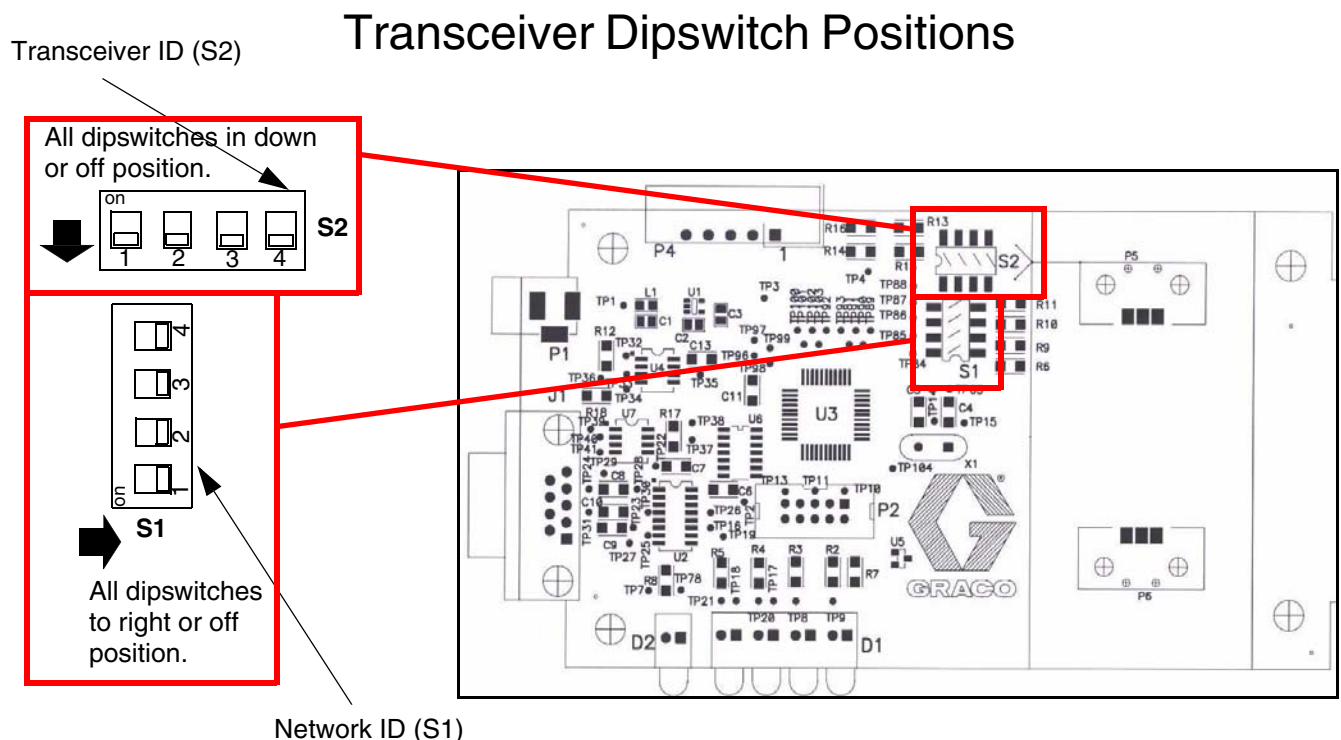
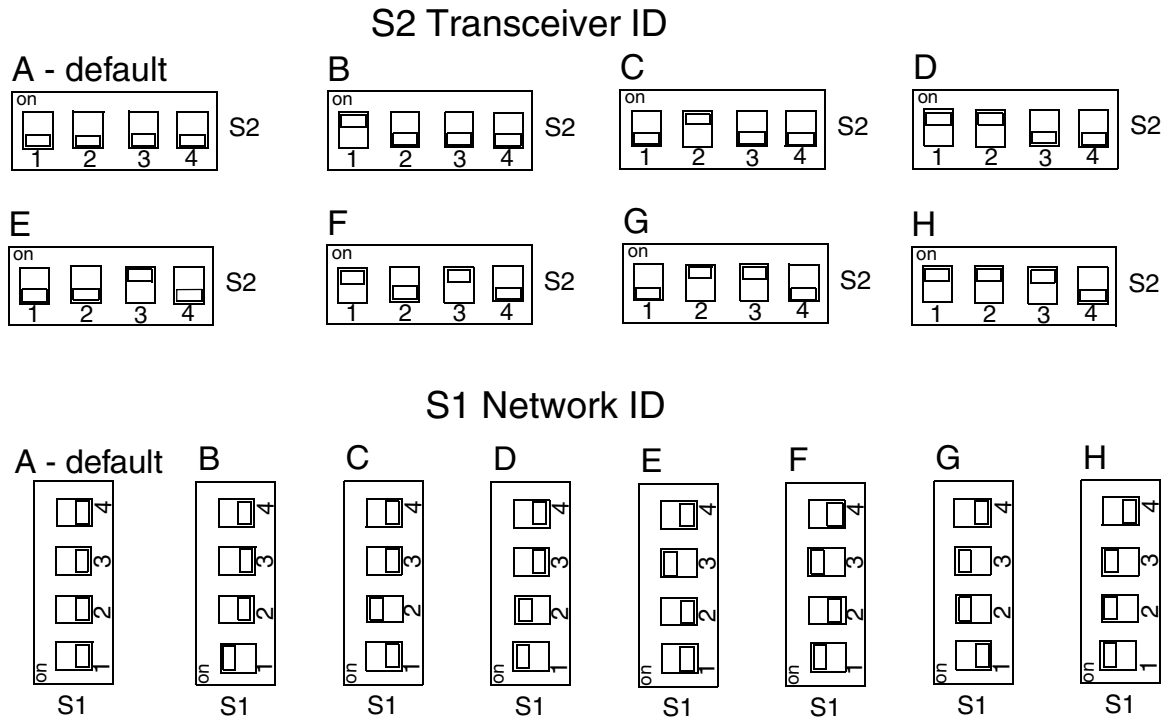

FIG. 8
FIG. 9
Each Transceiver is equipped with two, 4 - position dipswitches labeled S1 and S2 representing the network ID (S1) setting and the Transceiver ID (S2) setting. See FIG. 8. There is a possibility of (8) Network ID's and (8) Transceiver ID's. The eight positions for each Network ID and Transceiver ID are identified as A, B, C, D, E, F, G, and H. See FIG. 9 and FIG. 10.
- **Network ID (S1):** This is the RF identification setting assigned to a Matrix installation. All components in the system use this same Network ID. For example, if one dealership is using Network ID (A), the dealership across the street would require Network ID (B) to avoid RF interference between the two systems.
If no letters are present on the installed Transceiver, it may be necessary to look inside the Transceiver box to determine the dipswitch settings. First determine if an RS232 or an RS422 connection is used and then refer to FIG. 9 and FIG. 10 to determine the Network ID and Transceiver ID.